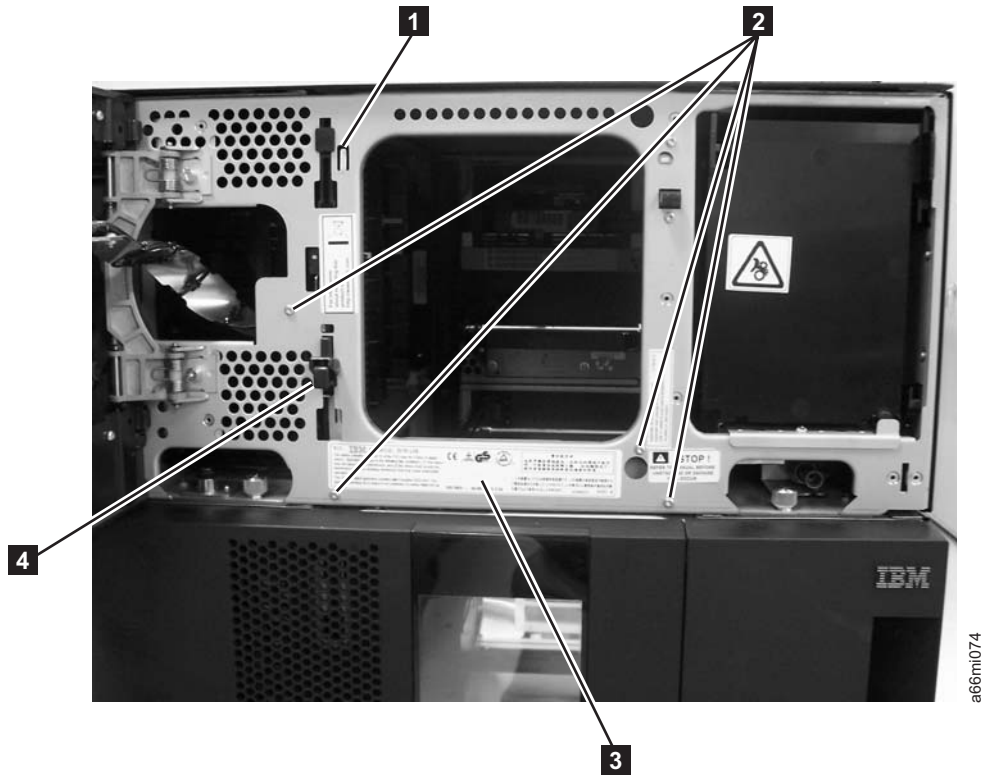

Figure 7-20. Agency Label placement
2. Place the Agency Label (**3** in Figure 7-20 on page 7-33) on the enclosure frame underneath the Access Door opening.